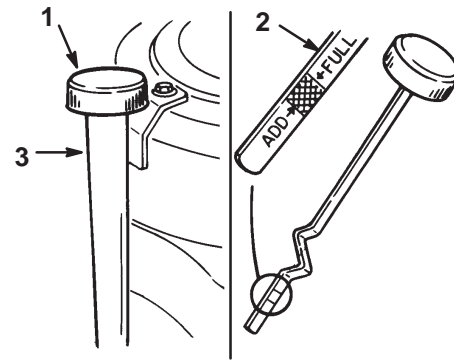

Figure 25
2. Clean around the oil dipstick (Fig. 25) so dirt cannot fall into the filler hole and damage the engine.
3. Unscrew the oil dipstick and wipe the metal end clean (Fig. 25).
4. Slide the oil dipstick fully into the filler tube, do not thread onto tube (Fig. 25). Pull the dipstick out and look at the metal end. If oil level is low, slowly pour only enough oil into the filler tube to raise the level to the "FULL" mark.
- Slowly pour approximately 80% of the specified oil, page 25, into the filler tube (Fig. 25). Now check the oil level; refer to Checking Oil Level, page 25. Slowly add additional oil to bring to “FULL” mark on dipstick.